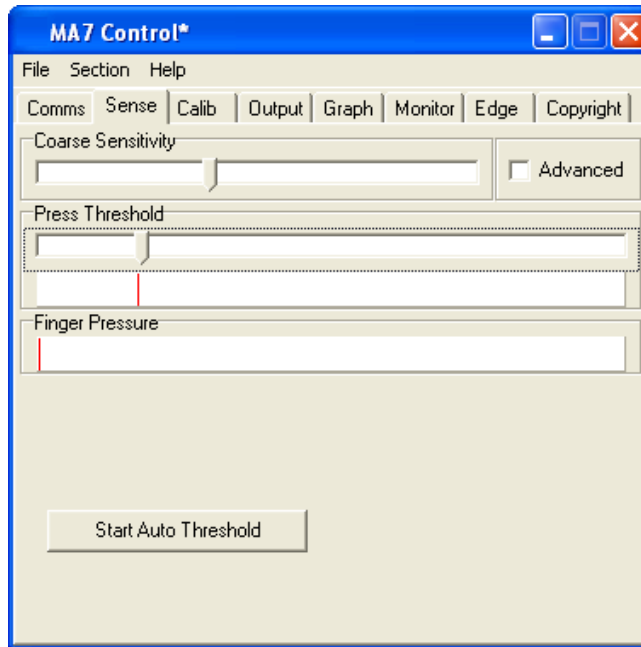
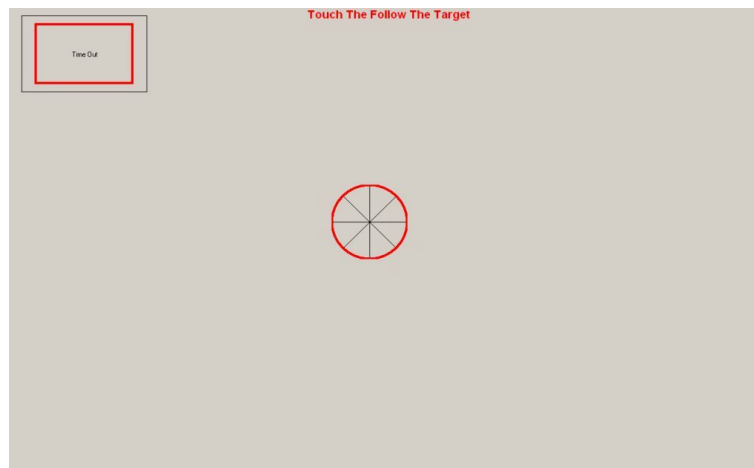

Fig 3
Fig 4
5. Place your finger over the centre red circle (Fig4.) and follow it with your finger until it turns green, then remove your finger. The automatic adjustment of sensitivity is now complete and the screen returns to Fig 3.